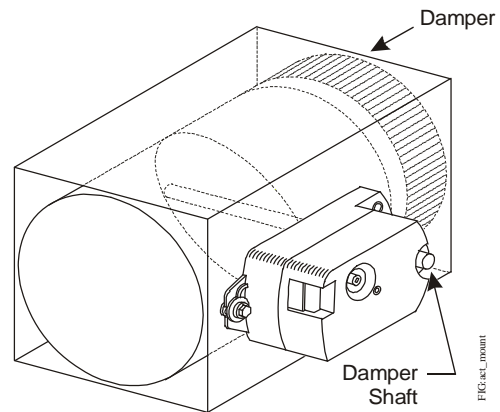

Figure 4: Mounting the Actuator onto the Damper Shaft
3. Make a note of the rotation range and direction, either clockwise (CW) or counterclockwise (CCW), required to close the damper.
5. Position the actuator onto the damper shaft so that the damper shaft protrudes through the actuator coupler, as illustrated in Figure 4.